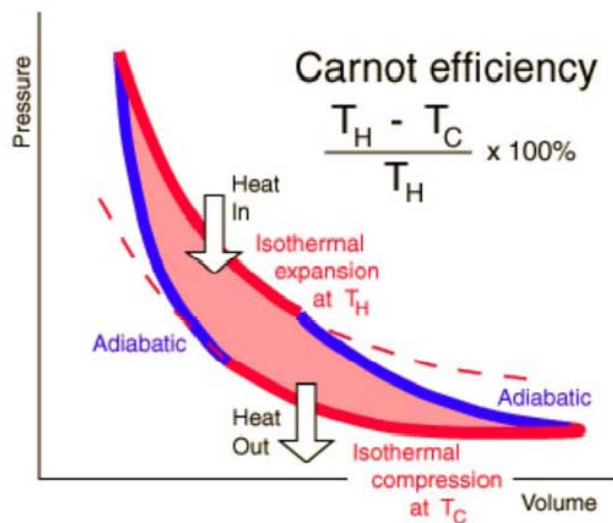

Figure 2: Schematic of a Carnot Engine Cycle.
- The Carnot engine consists of an ideal gas is confined to a cylinder by a frictionless piston. A Carnot engine consists of a 4-step work cycle, shown in Figure 2...
- A Carnot refrigerator simply reverses the cycle shown in Figure 2. Instead of heat q_H being withdrawn into the engine from the high temperature reservoir, partly converted to work with balance of the heat q_L the expelled into the low temperature reservoir, a refrigerator